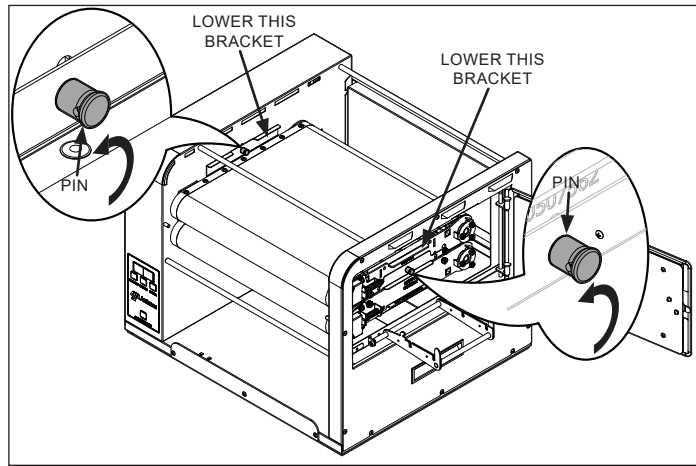

Figure 7. Lock the Brackets
7. Lock the brackets shown in Figure 7 by rotating the highlighted pin so the brackets drop down into place. Push down on each bracket to ensure they are in position.